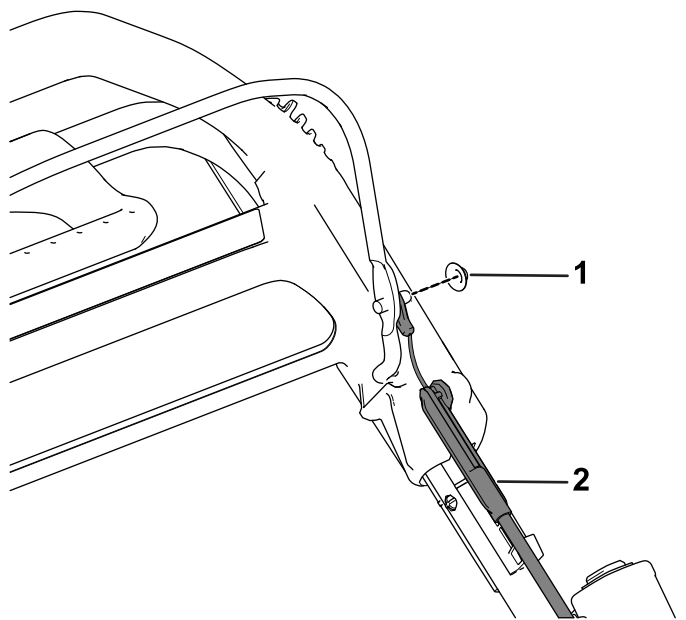

Figure 11
6. Disconnect the brake cable from the blade-control bar; retain and set the push nut aside (Figure 11).
5. Use the push nut to install the brake cable onto the blade-control bar (Figure 11).